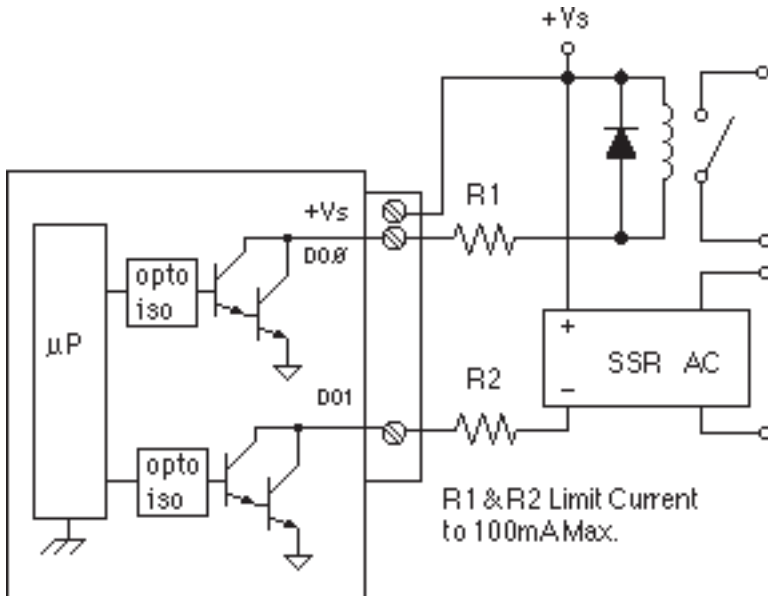
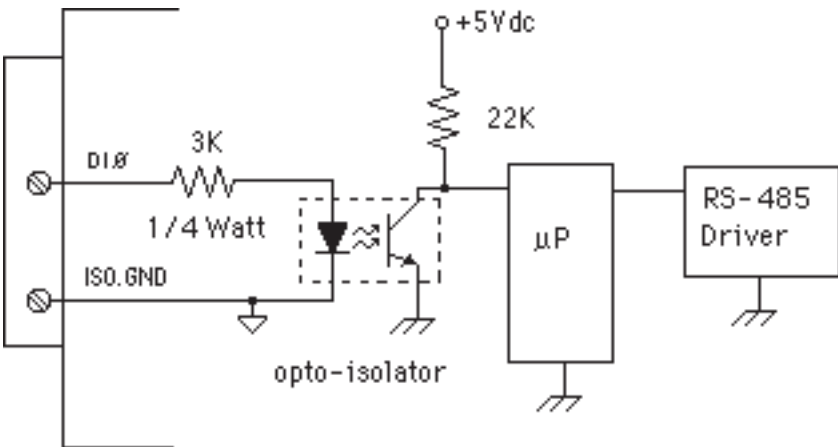

Figure 6.1 Digital Outputs Used With Relays
Figure 6.2 Typical Digital Input Circuit.
A digital output consists of an open-collector transistor controlled by the host, using the Digital Output (DO) command (See Figure 6.1). The open-collector configuration is used to provide maximum versatility in interfacing to solid state relays (SSR's) or to standard logic levels such as TTL or CMOS. Each digital output can sink up to 100mA and can withstand up to 30V. Power in the transistor must be limited to 300mW. The emitter of each transistor is tied to the GND terminal on the input connector.
A typical connection of a digital output is shown in Figure 6.1. In this case, a solid state relay is controlled by the SCM9B-D172 module. The SSR can then be used to control AC power to alarms, heaters, pumps, etc. A typical connection to a logic input is shown in Figure 6.2. In some cases, the common-mode voltage of the GND terminal may be significantly different from the ground potential of the logic input to be interfaced. This may occur
when the module is powered remotely. In this case, an opto-isolator may be used to eliminate the common-mode voltage. See Figure 6.2. In all cases, the current switched by the transistor may not be more than 100mA.
Digital inputs are used to sense switch closures and the state of digital signals. The inputs are protected to voltages up to  $\pm 30\text{V}$  and are normally pulled up to the logic "1" condition (see Figure 6.2). Digital inputs can be read by the Digital Input (DI) command. Voltage inputs less than 1V are read back as '0'. Signals greater than 3.5V are read as '1'. No other commands have any affect on the inputs.